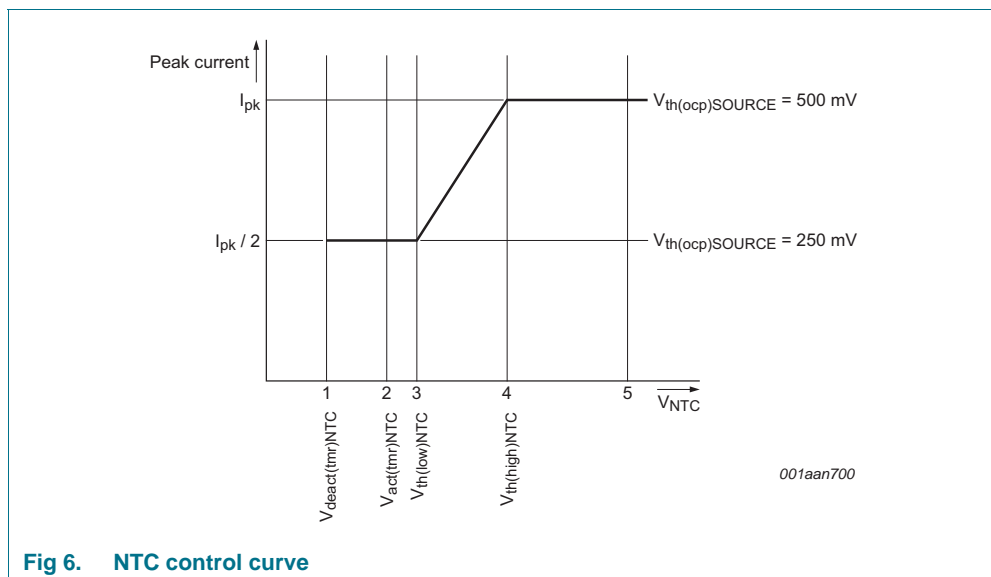

Fig 6. NTC control curve
The NTC pin can be used as a control method for LED thermal protection. Alternatively, the pin can be used as an input to disable/enable light output using a digital signal (PWM dimming). The pin has an internal current source that generates the current of $I_{\text{offset(NTC)}}$. An NTC resistor to monitor the LED temperature can be directly connected to the NTC pin. Depending on the resistance value and the corresponding voltage on the NTC pin, the converter reacts as shown in Figure 6.
When the voltage on the NTC pin exceeds $V_{th(high)NTC}$ (see Figure 6 \(4\)), the converter delivers nominal output current. When the voltage is lower than this level, the peak current is gradually reduced until $V_{th(low)NTC}$ is reached (see Figure 6 \(3\)). The peak current is now half the peak current of nominal operation. When $V_{act(tmr)NTC}$ is passed (see Figure 6 \(2\)) a timer starts to run to distinguish between the following situations:
- If the low-level $V_{deact(tmr)NTC}$ is not reached within time $t_{to(deact)NTC}$ (see Figure 6 \(1\)) LED overtemperature is detected. The IC stops switching and attempts to restart from the HV pin voltage. The converter restarts from an NTC protection shutdown when the voltage on the NTC pin exceeds $V_{th(high)NTC}$ (see Figure 6 \(4\)). It is assumed that the reduction in peak current does not result in a lower NTC temperature and LED OTP is activated.
- If the low-level $V_{deact(tmr)NTC}$ is reached within the time $t_{to(deact)NTC}$ (see Figure 6 \(1\)) it is assumed that the pin is pulled down externally. The restart function is not triggered. Instead, the output current is reduced to zero. PWM dimming can be implemented this way. The output current rises again when the voltage is higher than $V_{th(low)NTC}$.
The NTC pin can be used to make a soft start function. During switch-on, the level on the NTC pin is low. By connecting a capacitor (in parallel with the NTC resistor), a time constant can be defined. The time constant causes the level on the NTC pin to increase slowly. When passing level $V_{th(low)NTC}$ (see Figure 6 \(3\)), the converter starts with half of the maximum current. The output current slowly increases to maximum when $V_{th(high)NTC}$ (see Figure 6 \(4\)) is reached.